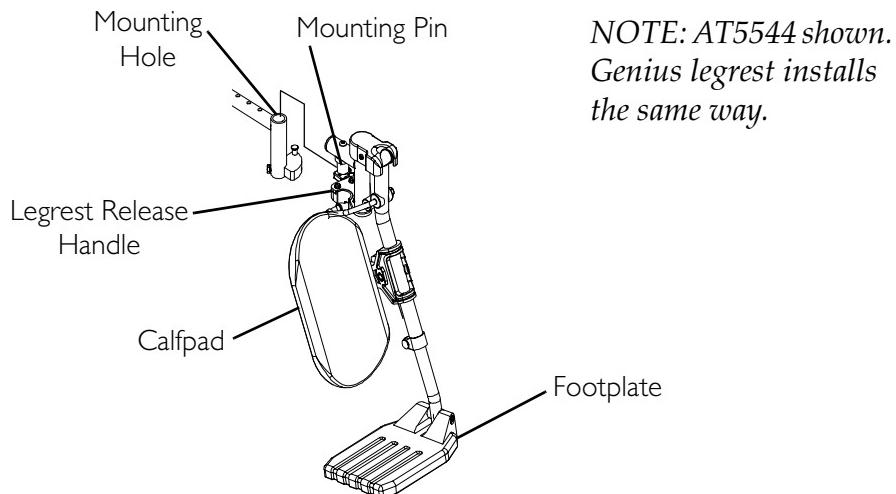

FIGURE 6.17 Installing/Removing Mechanical Elevating/Genius Legrests
NOTE: For this procedure, refer to FIGURE 6.17 on page 76.
4. Lift the elevating legrest up and position the mechanical elevating legrest push rod around the pin on the legrest as shown in FIGURE 6.17.
1. Lift up on the mechanical elevating legrest push rod and remove from the pin on the legrest as shown in FIGURE 6.17.